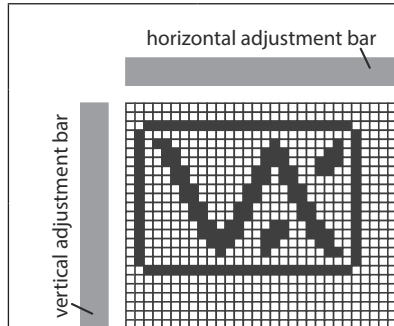

Fig. 85
- Import or create an image (see notes below), as shown in **Fig.85**.
- The imported image will appear in the main editing area, **Fig.85**.